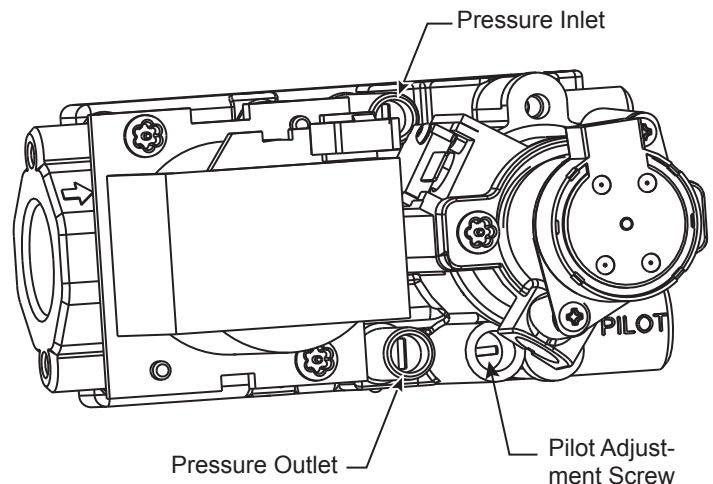

**Figure 25 -
4. To check gas pressures at valve, turn captured screw counter clockwise 2 or 3 turns and then place tubing to pressure gauge over test point. Turn unit to high. *Figure 25.* After taking pressure reading, be sure and turn captured screw clockwise firmly to reseal. Do not over torque. Check test points for gas leaks.